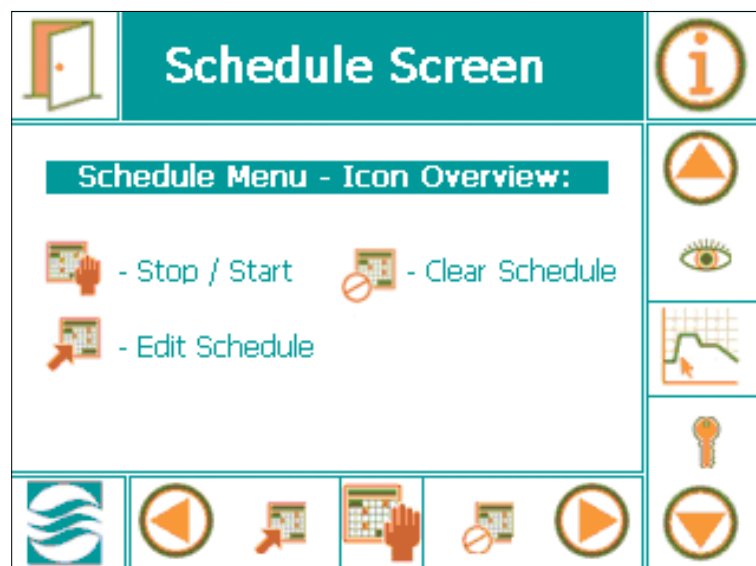

Figure 4-17: Schedule Screen
The display now returns to the Schedule Screen view (Figure 4-17). A new schedule can now be created per Section 4.4.1: Edit Schedule.
- To see the schedule status while a schedule is running, touch the information icon from the Schedule Screen (Figure 4-17: Schedule Screen).